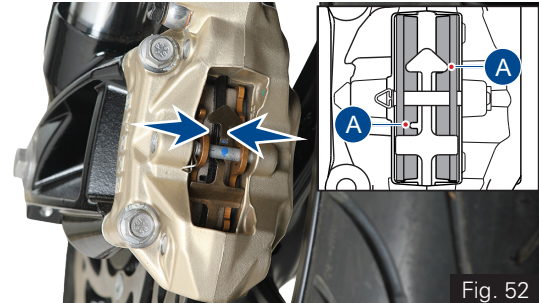

Fig. 52
- If the wear is found beyond the wear indicator (A & B) groove as shown in the figure in any one of the pad, replace brake pads as a set with a new one. (ref. Fig. 52 & 53)